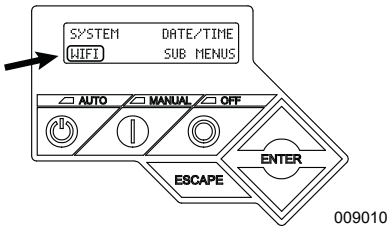

Figure 4-1. Enter Wi-Fi Menu
1. See Figure 4-1. With the generator operating, enter Wi-Fi menu by selecting "WIFI" on the controller display.